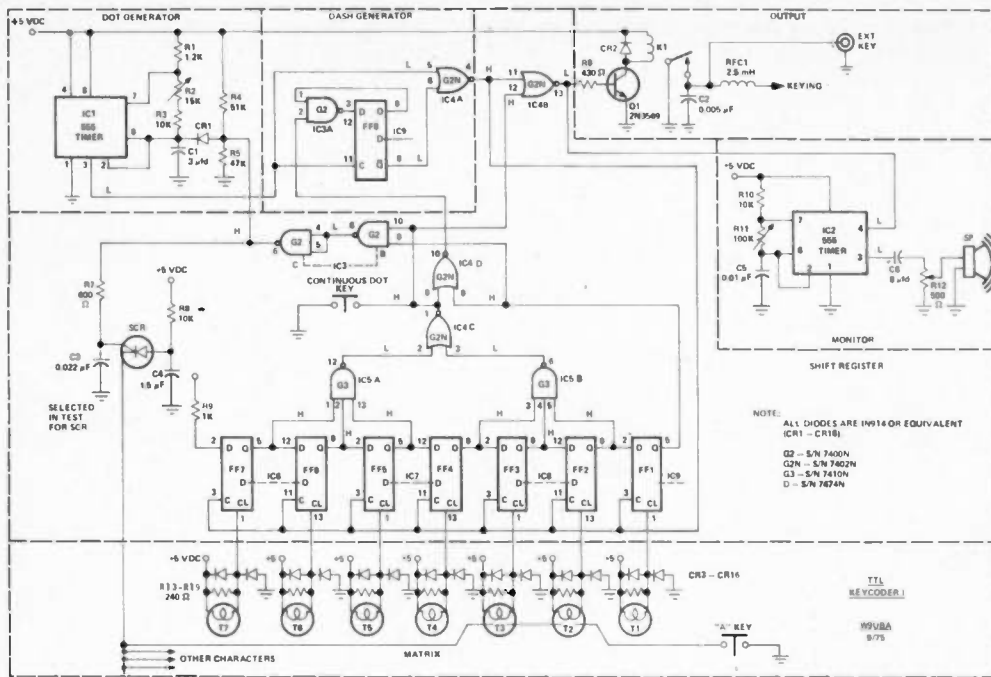

Fig. 3. Schematic.
theory discussion will take you on a tour of the TTL-version schematic diagram (Fig. 3). For convenience of discussion, the schematic is separated by dashed lines into the following six areas representing functional blocks: (1) dot generator, (2) dash generator, (3) shift register, (4) encoding matrix, (5) monitor, and (6) output stage. The discussion that follows will be so divided also, with some necessary overlapping. On the schematic diagram, the logic state H ("1") or L ("0") is shown for the output of each IC. These states are for static conditions, when no character is being generated.
As shown in Fig. 3, the shift register portion of the schematic consists of "D" type flip flops FF1 through FF7, two sections of a triple 3-input NAND gate (the third section isn't used), the remaining two NOR gate sections of IC4, and two gates of a quadruple 2-input NAND gate IC (the fourth section isn't used). In this mechanization, the 3-input NAND gates serve an OR function, one
The TTL output of Keycoder I can be used to drive either a keying relay, as shown in Fig. 3, or a PNP power transistor, if you can find one with ratings adequate for the keying circuit of your rig. (We found such transistors very hard to find; W9TO very kindly provided a list of suitable transistors, with their voltage ratings, which is appended to the Parts List.)
In the relay circuit shown in Fig. 3, Q1 can be any small NPN audio transistor (I used a HEP 728 with R6 = 2200 Ohms). The value of R6 can
Fig. 3 does not show the power supply, since the keyer's power requirements are reasonably uncritical and the builder will probably wish to fabricate his supply with whatever parts he has available. The Keycoder draws